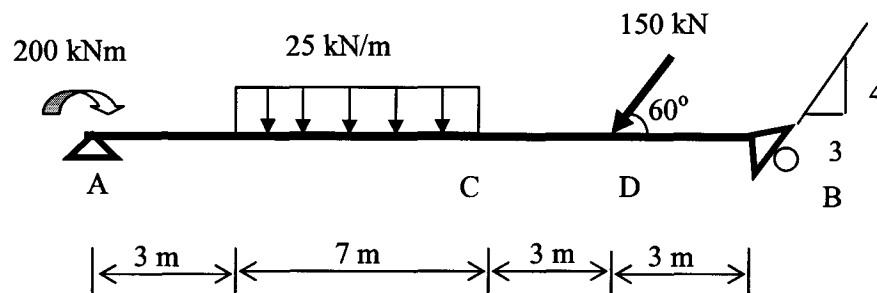

Figure 3(c)/Rajah 3(c)
- (b) Classify each of the structures shown in **Figure 3(a – d)** as statically determinate or indeterminate. If the structure is statically indeterminate externally, then determine the degree of external indeterminacy.
- (c) A simply supported beam is shown in **Figure 3(c)**. Assume the self weight of the beam is negligible.